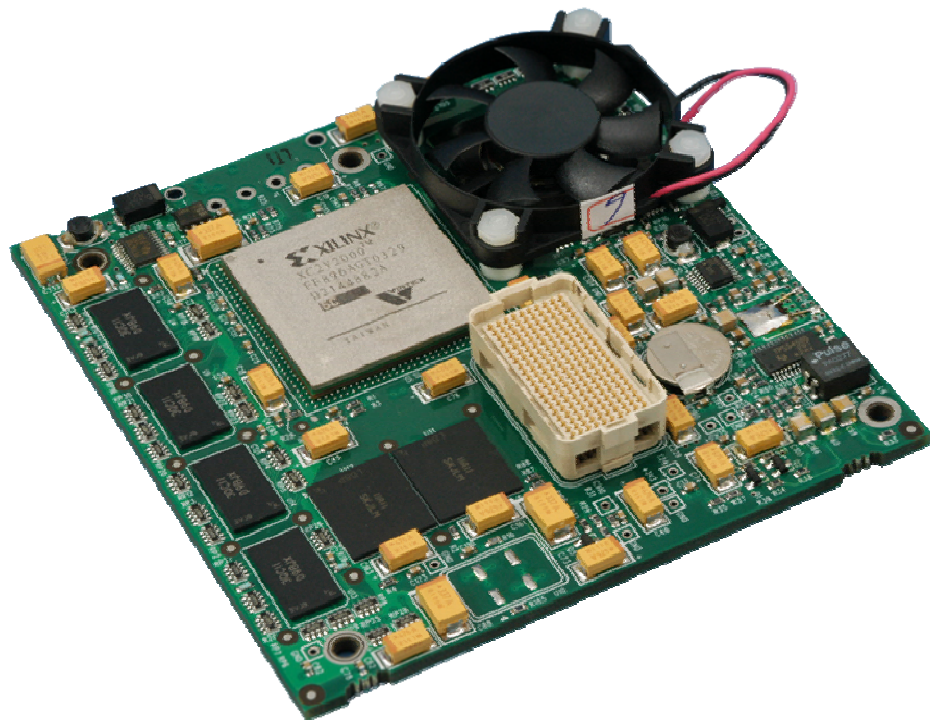

Figure 1-1. Coprocessor ATM Reassembler.
**Figure** Figure 1-1 shows the Coprocessor ATM Reassembler.